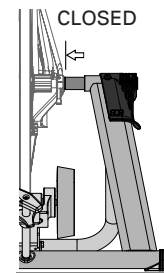

Figure 3.
5. On the left hand side, adjust the silver threaded bolt and black plastic lock nut so that they are all the way in, with no thread showing. This will give you plenty of room as you move the bike into position. See Figure 3.
13. Now test the lever by applying a downward force and closing the lever all the way to the closed position. See figure 3. It should be firm to close, but still easy enough to close and open.